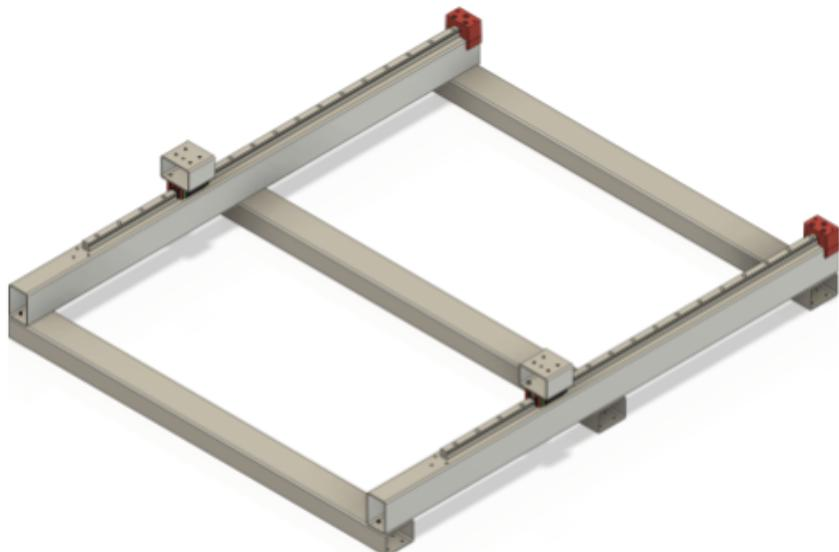

Figure 8.2
2. Gently install both of the assembled Y-Axis rollers onto the HGR20 rail as shown in Figure 8.2. Their location on the rail does not yet matter.